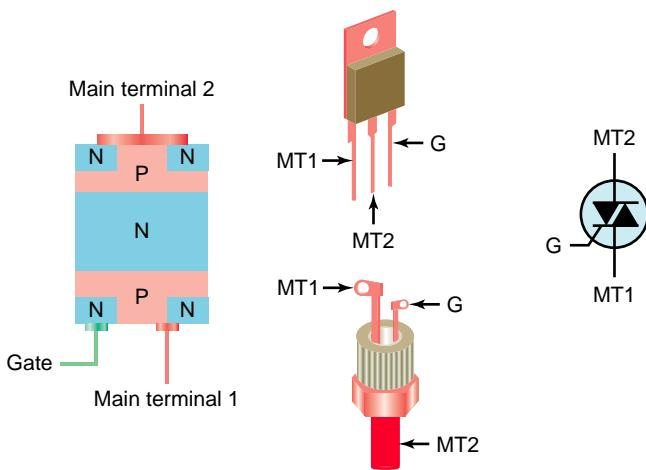

Figure 9-32 Triac.
The triac is a three-terminal device essentially equivalent to two SCRs joined in reverse parallel (paralleled but with the polarity reversed) and with their gates connected together. The result is a bidirectional electronic switch that can be used to provide load current during both halves of the AC supply voltage. Triac connections, shown in Figure 9-32, are called main terminal 1 (MT1), main terminal 2 (MT2), and gate (G). The leads are designated this way since the triac acts like two opposing diodes when it is turned on and neither lead always acts like a cathode or an anode. Gate current is used to control current from MT1 to MT2. From terminal MT1 to MT2 the current must pass through an NPNP series of layers or a PNPN series of layers. The gate is connected to the same end as MT1, which is important to remember when you connect the triac control circuit. Terminal MT1 is the reference point for measurement of voltage and current at the gate terminal.